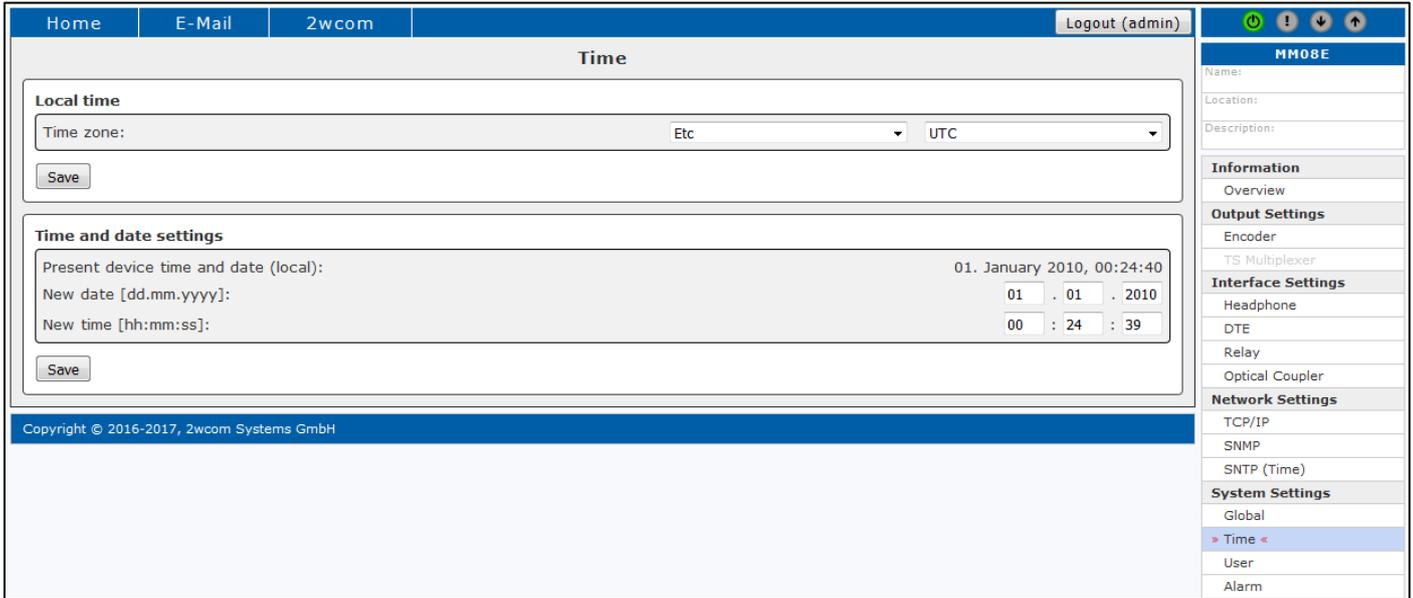

Figure 42: System Settings – Time
1. Open the window *Time* under **System Settings**→**Time** (see Figure 42).